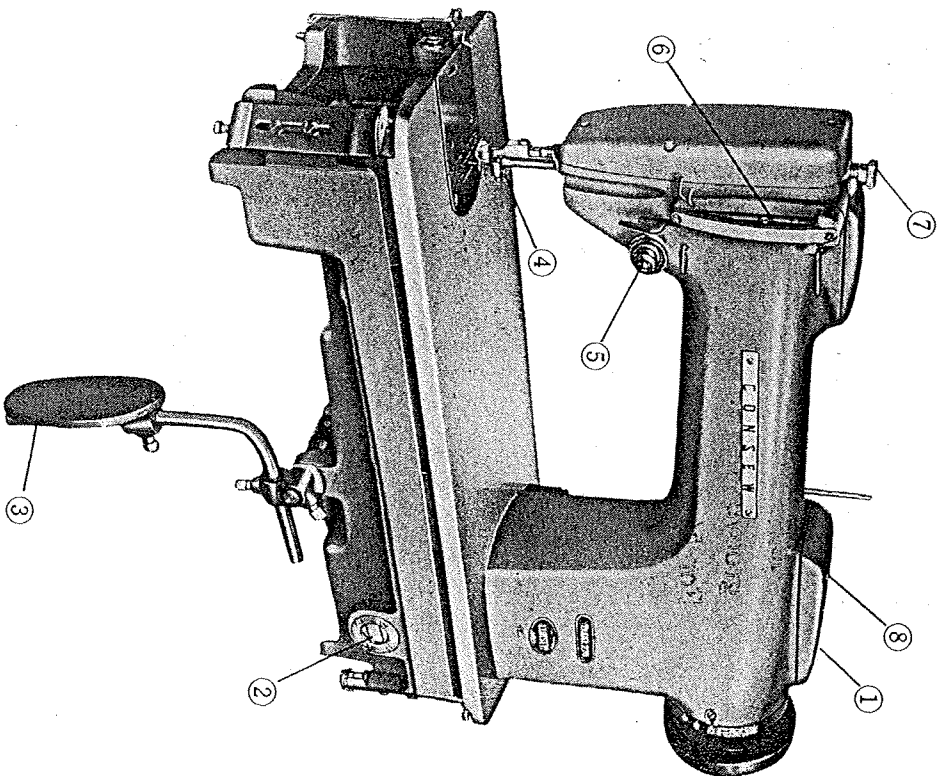

Fig. 1
Oiling of the operating parts of Model 220 machine is entirely automatic. Oil is contained in the oil pan at the bottom of the machine head and is circulated from there to all parts which require lubrication and cooling. The oil pan should be filled with good quality sewing machine oil, either ordinary or stainless type, of a grade similar to SAE10 to the level indicated by the word "High" inside the pan. The upper red line of the oil level indicator (2), (Fig. 1) shows the corresponding oil level. Check oil level daily and never allow it to fall below the lower red line of the oil level indicator or below the "low" mark inside the oil pan. Oil is filled directly into the oil pan when the head is tilted back. Total oil capacity is approximately 1½ pints (24 fl. ounces.)